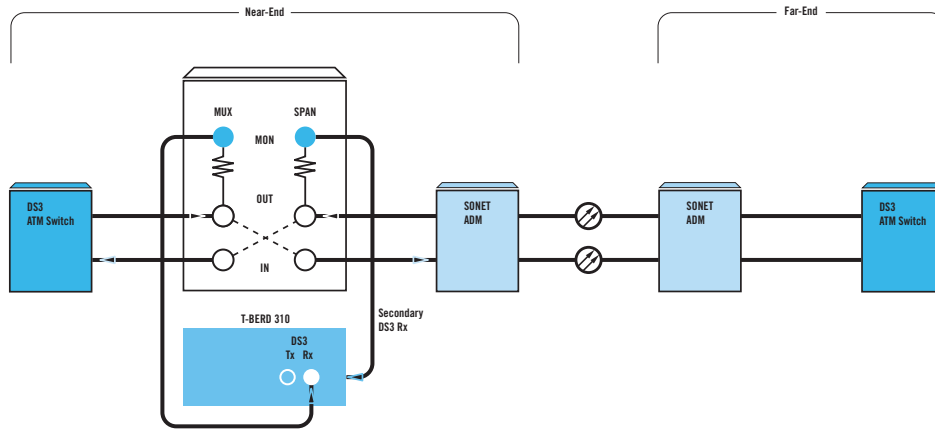

Figure 13 Connecting the T-BERD 310 to test for bipolar violations
1. Connect the mux side DSX monitor jack to DS3 RECEIVE on the T-BERD 310 as shown in figure 13.